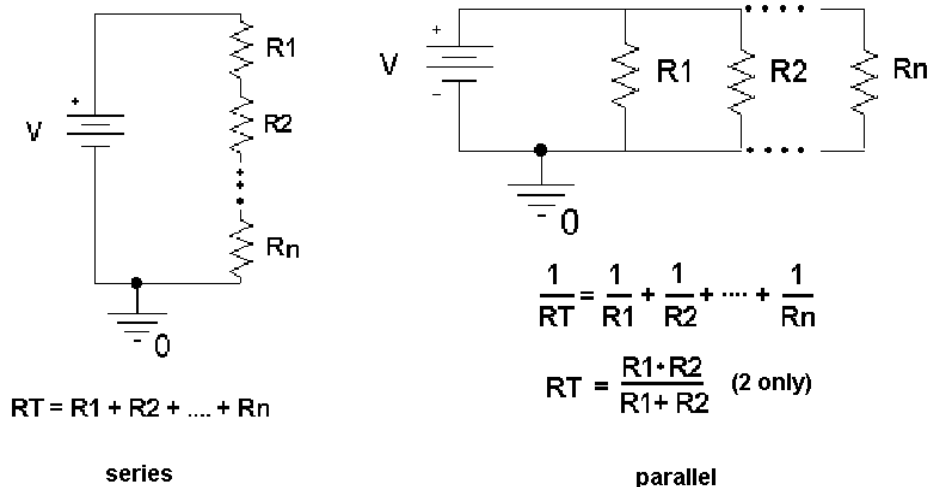

Figure B-3.
*Series and parallel circuits:* Another fundamental concept we need to understand in order to analyze the circuits we will build is how to mathematically combine resistances. If any number of resistances are connected in series, you simply add them to find the total resistance. If any number of resistances are wired in parallel, the total resistance is the reciprocal of the sum of the reciprocals of all of the resistances. This is summarized in Figure B-3.